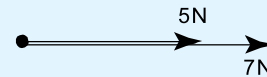

Figure 5.30
7. The magnitude of the resultant of the vectors shown in Figure 5.30 is: